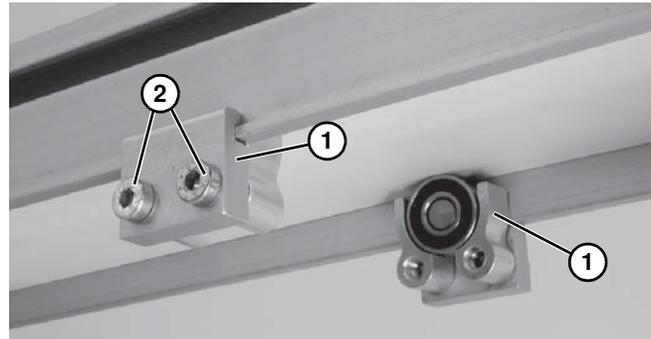

Figure 14
3. Install roller assemblies (Figure 14, item 1) as shown. Tighten screws (Figure 14, item 2) to 60 in-lb (7 Nm).